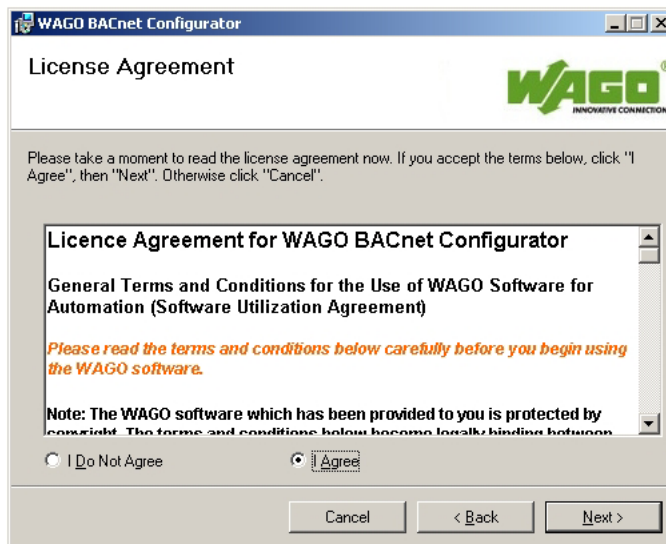

Fig. 2-2: Confirm the license agreement
3. Read the terms of the license carefully and select [I Agree]. Start the next installation step by clicking on [Next] (see Fig. 2-2).